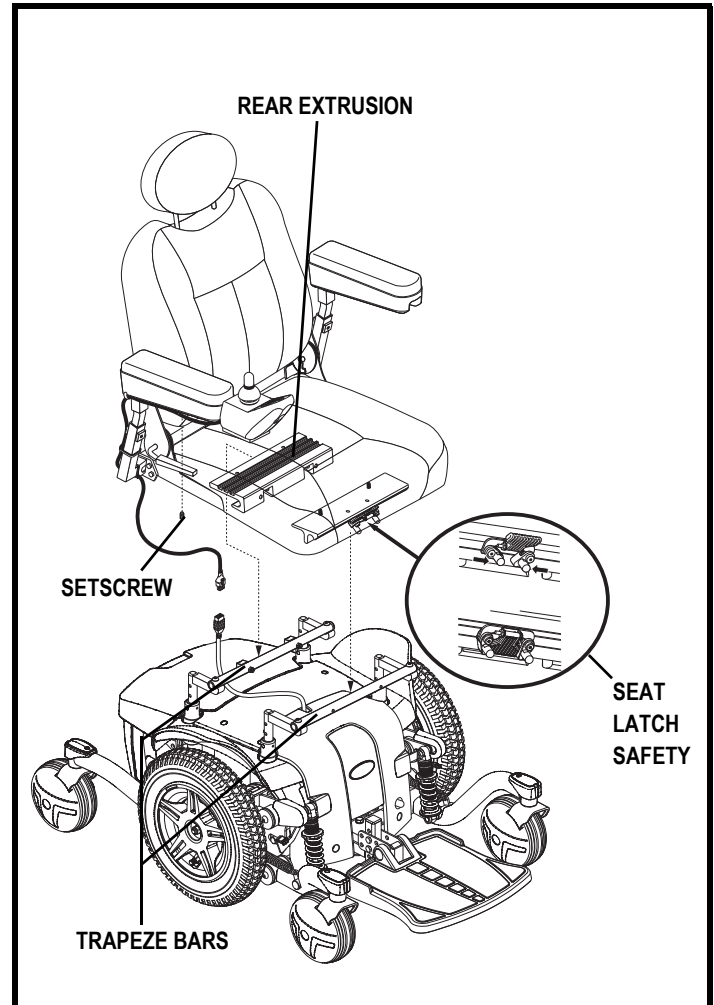

Figure 11. Universal Mounting System
It may be necessary to install the seat either prior to initial operation or after transporting your power chair. Most seats are attached to the power base with the Universal Mounting System (UMS). The UMS consists of universal parts that may be attached to any medium-back or high-back seat, regardless of seat width or seat depth. The two main components are aluminum extrusions mounted to the seat base. These extrusions attach to a pair of trapeze bars that are mounted to the power base. See figure 11.
1. Tilt the seat back and slide the rear extrusion onto the rear trapeze bar. See figure 11.
4. Install the controller into one of the armrests. Tighten the setscrew. See figure 11.
5. Lift the armrest straight up, then route the controller harness so that it cannot be pinched in the seat hinge as shown in figure 11.
15. Lift the armrest straight up, then route the controller harness so that it cannot be pinched in the seat hinge. See figure 11.
7. Lift the armrest straight up, then route the controller harness so that it can not be pinched in the seat hinge. See figure 11.